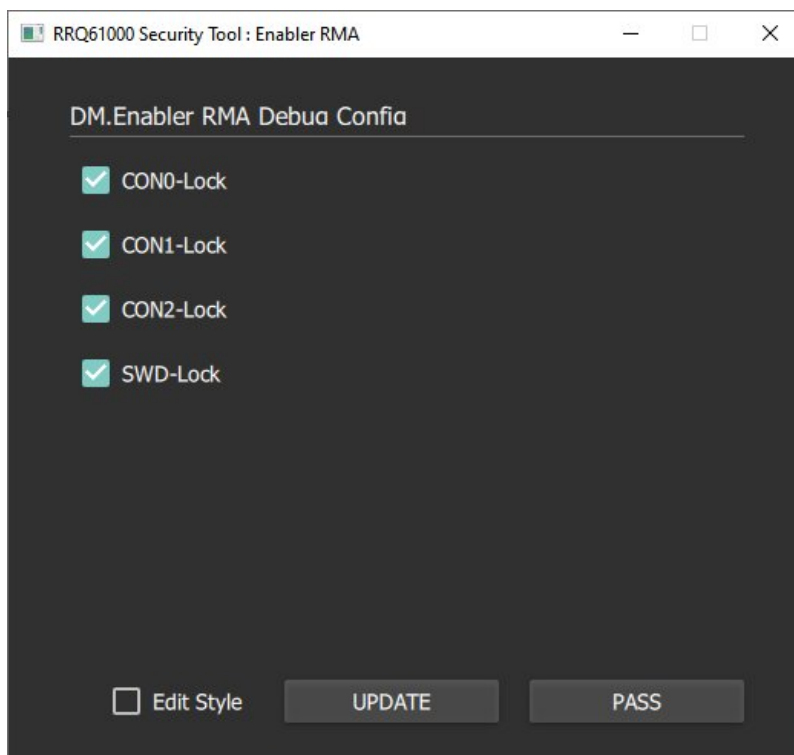

Figure 45. DM RMA window
2. In the **Enabler RMA** window (Figure 45), click **Pass**.